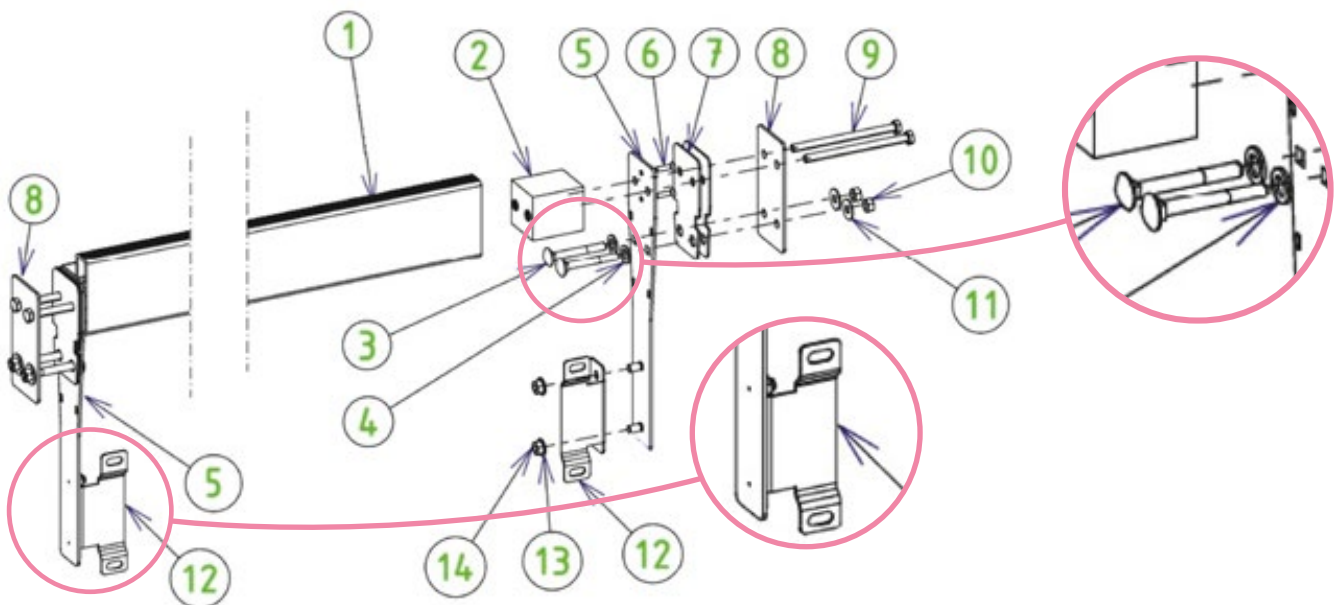

Figure 42 – Assembling and mounting the beam
The beam assembly steps are illustrated in Figure 42. The screws required for assembly are enclosed in bag Y. In this figure, the wooden wall is located between parts 7 and 8, and the liner is sandwiched between the two rubber gaskets (7).
- Glue the two remaining rubber gaskets to the beam mounting plates (5) on the side opposite the threaded rods (the other two gaskets were applied to the wood, before the liner was fitted) . Make sure that the holes in the gasket (7) are aligned with the holes in the mounting brackets (5).
- For the assembly, working from inside the pool, insert four mushroom head square neck bolts, 8 x 70 SS A4 (3) with 8 mm rubber washers (4), then, working from outside the pool, mount washers (11) and 8 mm A4 SS nuts (10).
- The holes drilled in the top of the wall in paragraph 9.2 should line up with the remaining 8 mm holes in the mounting plate (5) and counter plates (8).
- CAUTION: the rubber washers (4) are required to ensure that the pool is leaktight.
- Fasten the two pit wall mounting brackets (12) to the beam mounting plates (5) using four nuts (14) and four 8 mm diameter A4 SS washers (13). The protruding parts of the pit wall mounting brackets (12) that feature a slot should be located on the side opposite the skimmer and the automatic cover axle (see the zoom focused on the pit wall mounting brackets (12) in Figure 42).
- Insert the polyamide blocks (2) on either side of the beam (1) using a mallet, making sure that the brass inserts on the polyamide blocks are oriented toward the inside of the beam.
- Install the beam on the pool, facing the beam mounting plates (5), making sure that the holes in the polyamide blocks are aligned with the holes in the plates (5) and counter plates (8). Working from outside the pool, fasten the beam to the outside of the pool using four hex head 8 × 120, A2 SS screws (9).